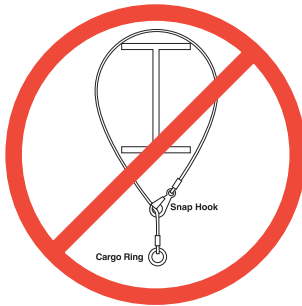
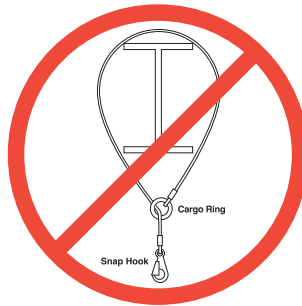

Figure 2.
Figure 3.
- 2) **WARNING: (Danger of tie-back installation)** Care must be taken to never use the Extender Cable as a choker in a tie-back installation. It is possible when installing an Extender Cable to loop the Extender Cable around a beam and then attach it back to itself by snapping the hook of the snap over the cable (see Figure 2). It is also possible to loop the Extender Cable around an I-beam and insert the snap back through the cargo ring creating a choker effect (see Figure 3). **Both of these arrangements are strictly forbidden.**